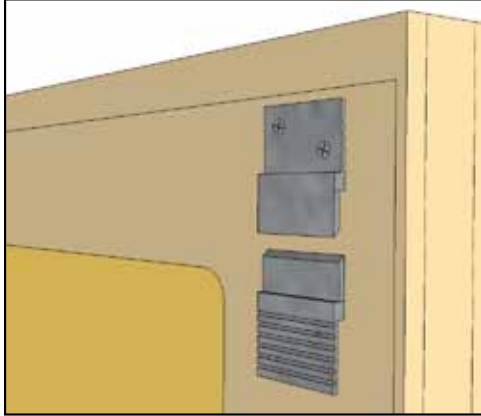

Figure 5
3. Hang the Ensemble (*Figure 5 and 6*)